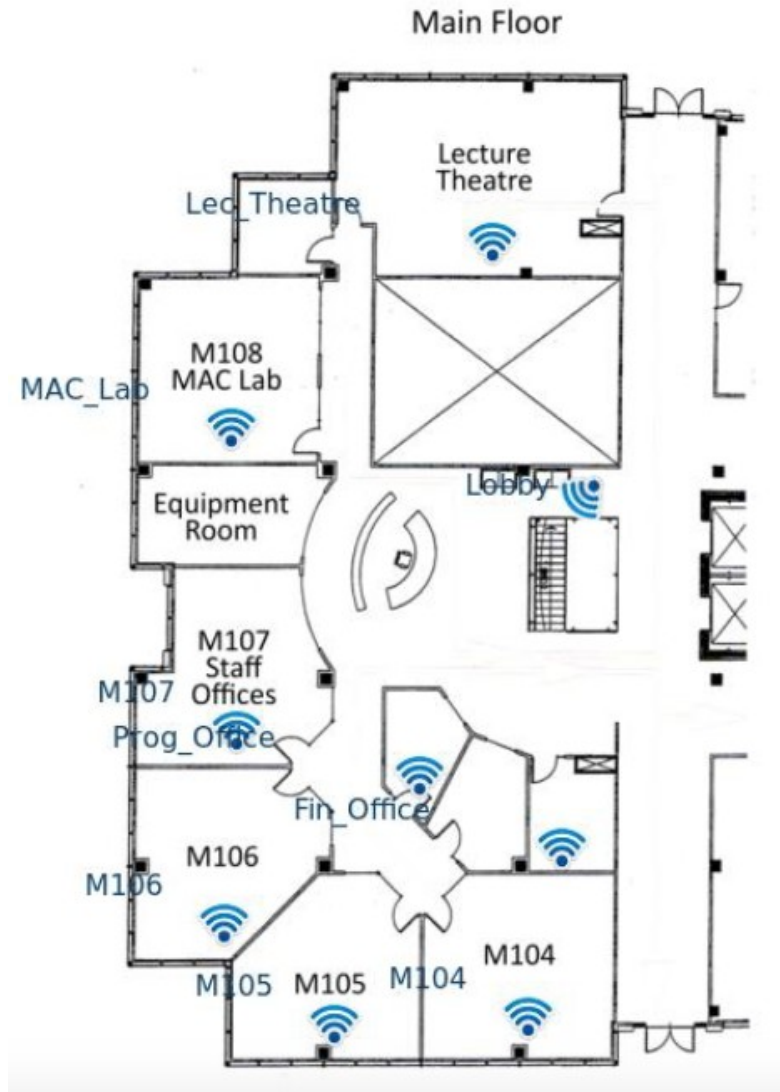

Figure 4
2.2.4 WLAN Network: WiFi coverage is needed on the ground floor of CAT facilities in the Landmark 3 building. Nine (9) UniFi WiFi 6 Long-Range Access Points mounted on the ceiling at the locations depicted in Figure 4 will provide superior coverage of the space. Each access point should be connected to the PoE switch located in the wiring closet with Cat5 cables. The access points should be connected to the switch starting from ethernet port 2 to ethernet port 10. The Netgate firewall device should be located in the wiring closet with the switch and connected to port 16 on the switch, leaving five (5) ports available for future additions if need be. For further discussion of access point configurations and coverage reference Section 3, items 3.2.2 and 3.2.3 of this document.